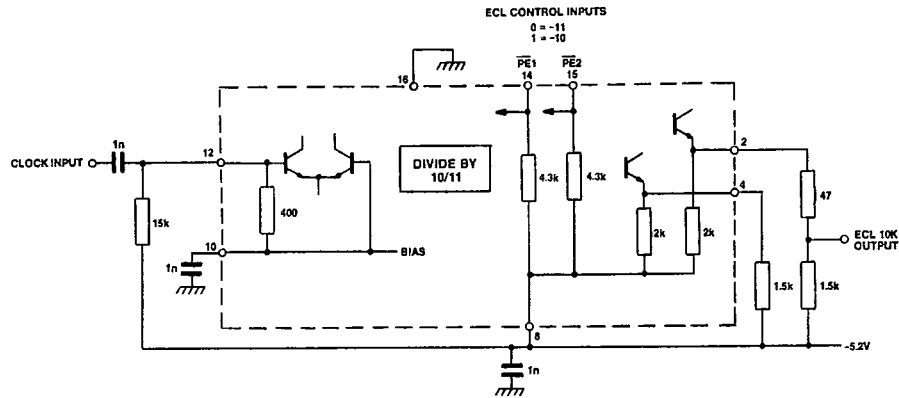

Fig.7 Typical application showing interfacing
- 4. The outputs are compatible with ECL II but can be interfaced to ECL 10K as shown in Fig.7.